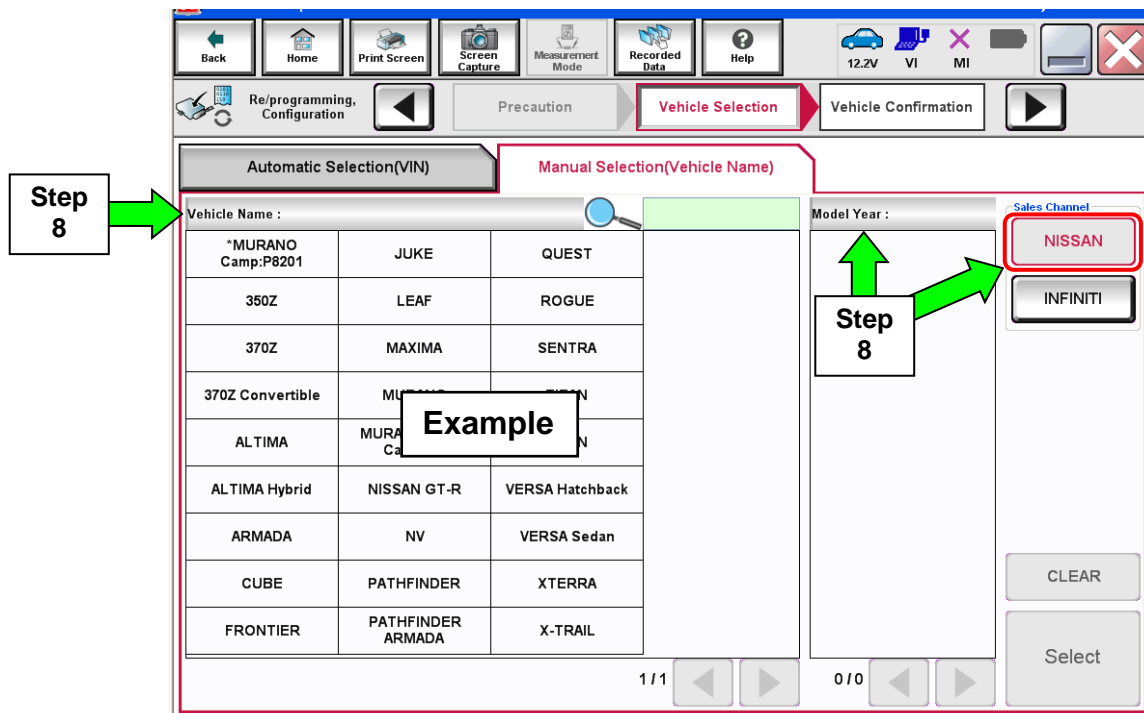

Figure 3A
- If the screen in Figure 3A does not display, skip to step 9.